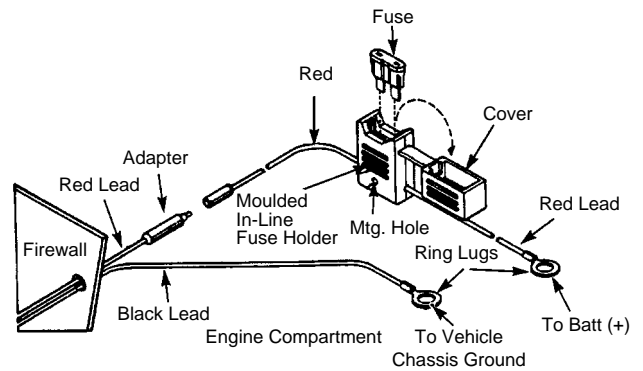

Figure 8 Power Cable Assembly
5. Install ring lugs (supplied) onto stripped end of power cable black lead, and onto stripped end of red lead on fuse holder (See Figure 8).
6. Locate the fuse holder as close to the battery as possible and away from any hot engine component. Mount the fuse holder using the provided mounting hole and dress wires as necessary. Connect the fuse holder red adaptor lead plug to the mating receptacle on the red lead of the power cable (See Figure 8).
9. Plug fuse into in-line fuse holder (See Figure 8).